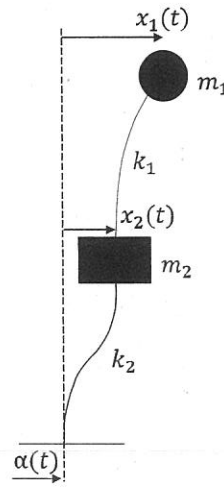

Figure 2 A bridge model with the light pole
- (2) Consider a two-degree-of-freedom system where the light pole considered in (1) is attached to a bridge modeled by mass m_2 and stiffness k_2 as in Figure 2. $x_1(t)$ and $x_2(t)$ are horizontal displacements of the light pole and the bridge, respectively, relative to the ground. Assume $m_2 = 110m_1$ and $k_2 = 110k_1$. The damping can be ignored.
- (3) Describe two ways to suppress seismic responses of accessory structures, which are typified by light poles and traffic sign poles, installed on a bridge, in about two lines each.